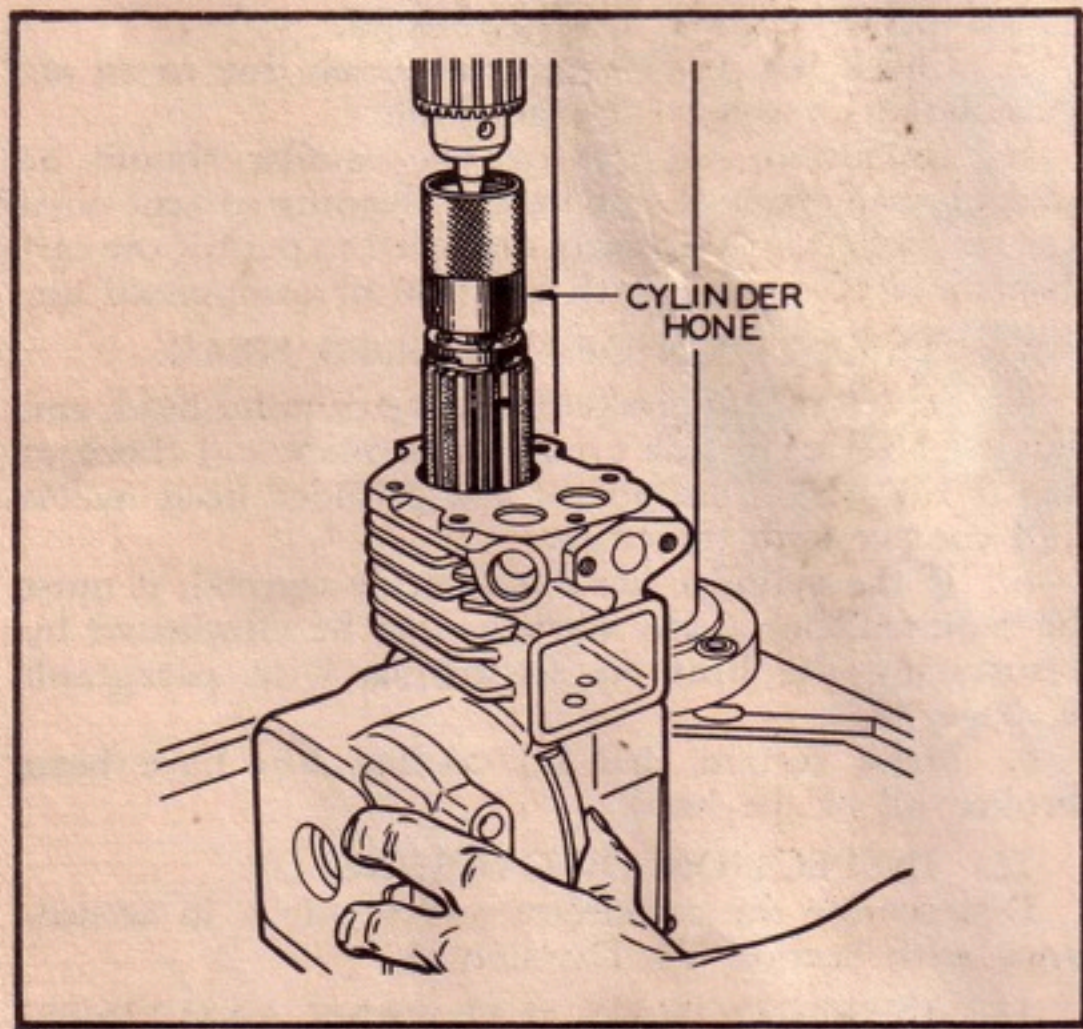

Figure C-10. Honing Engine Cylinder
a. Check the flywheel for broken fins and loose magnets. If magnets are loose, tighten them securely and stake the screw heads in position. Test strength of magnets with the "magnetometer," as shown in figure C-10.
d. Install a set of coarse stones in the cylinder hone, and insert the hone in the cylinder. (See figure C-10.)